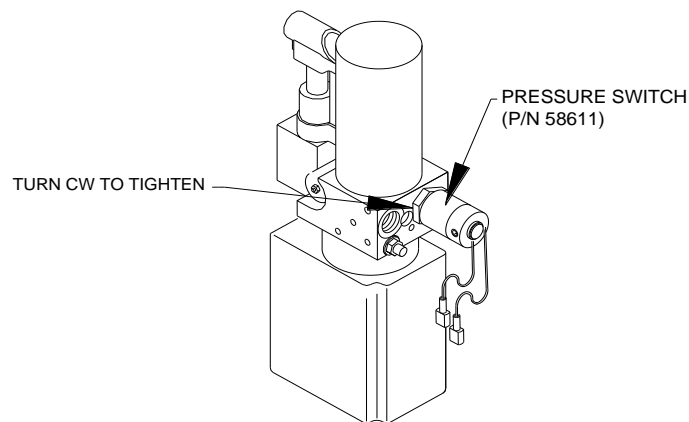

FIGURE 6: PRESSURE SWITCH P/N 58611
NOTE: If adjustment is necessary then pressure switch must be adjusted as shown in **FIGURE 6**.
8. Refer to **FIGURE 6**. Loosen the locking set screws from the hydraulic pressure switch, using a 5/64" hex wrench to allow adjustment of the hydraulic pressure switch.